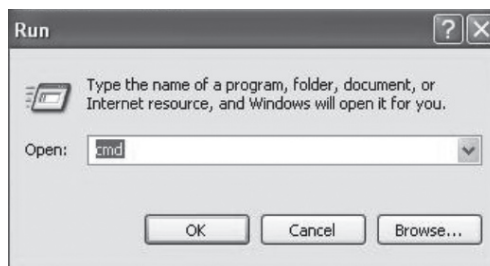

Figure 5-10 Run Window
3. Type cmd in the prompt Run window as Figure 5-10 and click OK.